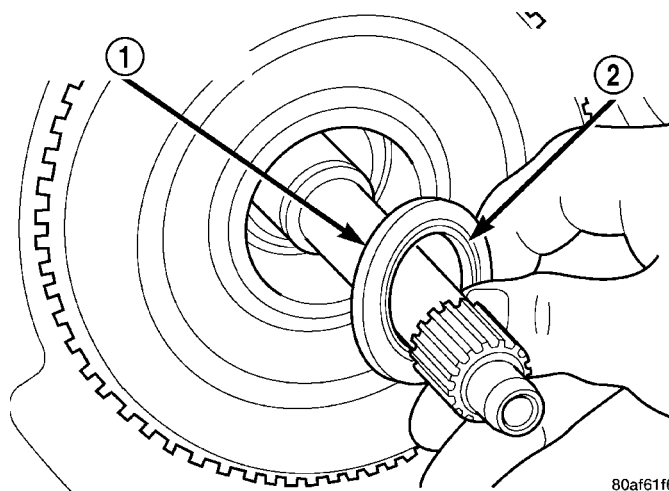

Fig. 144 Install No. 1 Caged Needle Bearing
(54) Install #1 caged needle bearing (Fig. 144).